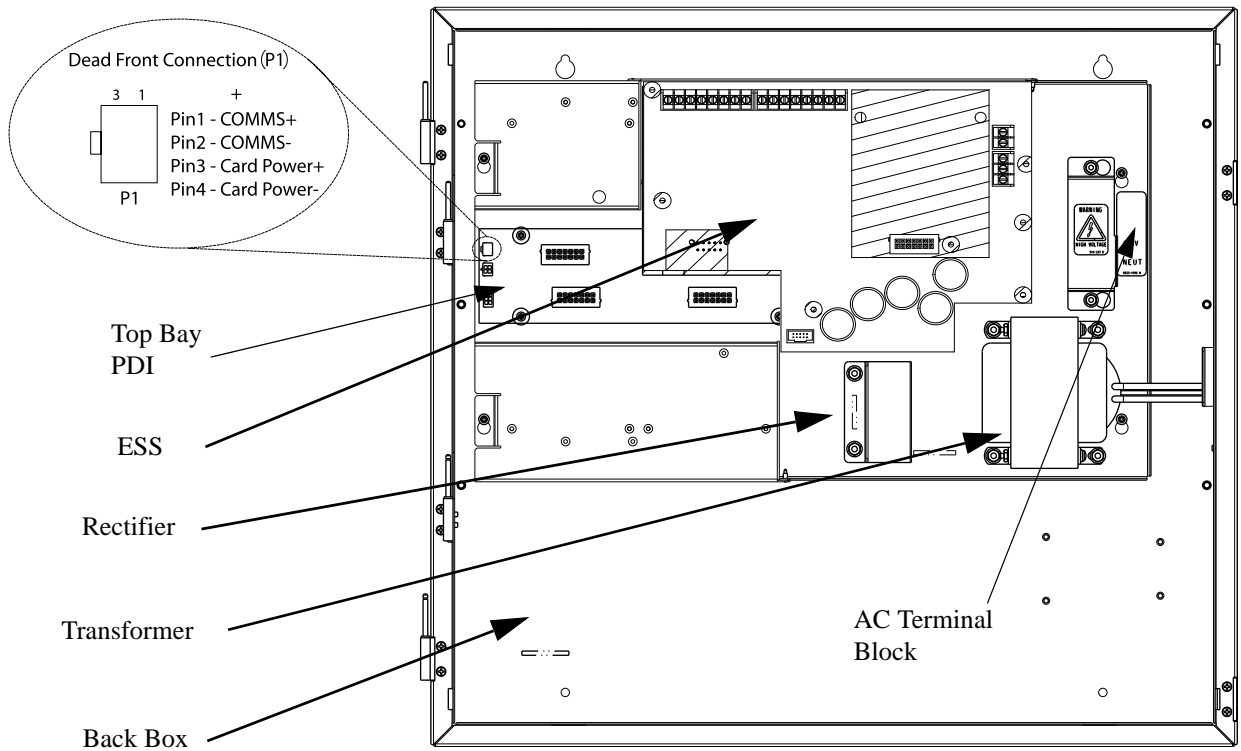

Figure 5-8. Top bay
6. Connect port **P9** or **P10** of the CPU card to the **dead front connection (P1)** port on the top-bay power distribution interface (PDI) card (Figure 5-7 and Figure 5-8). Use the 734-008 4-pin connector harness provided.
3. Connect the rectifier to the **Bridge HARN1** connectors on the ESS (Figure 5-1). The red wire connects to the tab labeled “+” on the bridge. The black wire connects to the tab labeled “-” on the rectifier. See Figure 5-8 for the location of the rectifier.